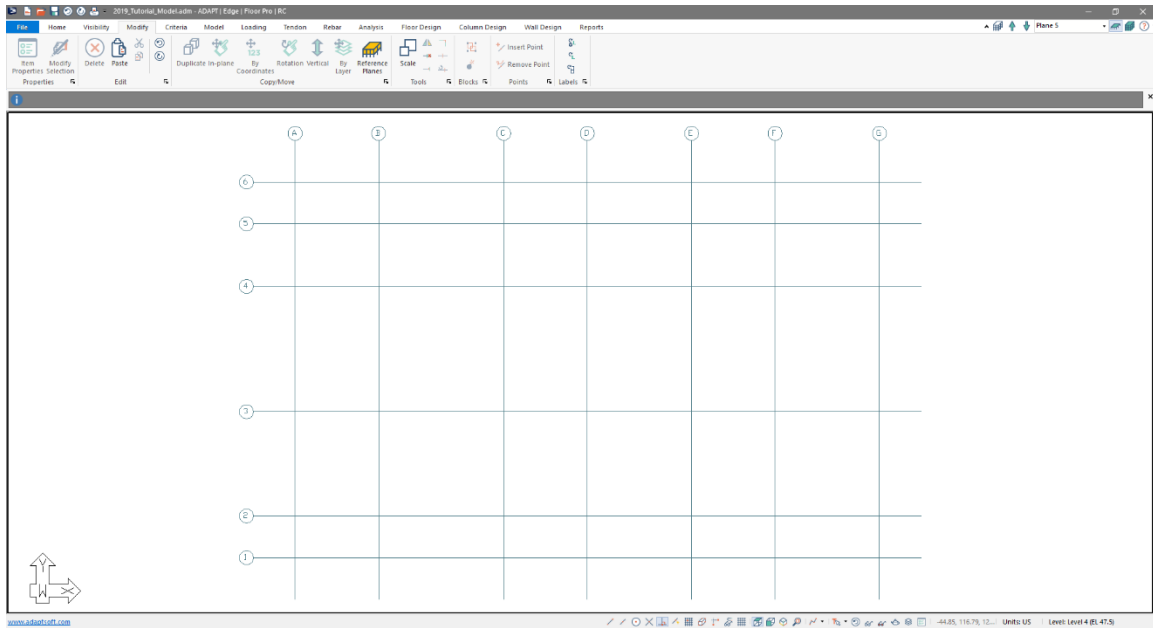

Figure 4-1
- Click on the *Active Level Up*  icon of the **Upper Right Level Toolbar** to make the next level up (Level 4) the active level and move the view to the Level 4 reference plane. You should now see the level 4 plane with only gridlines on it as shown in **FIGURE 4-1**.